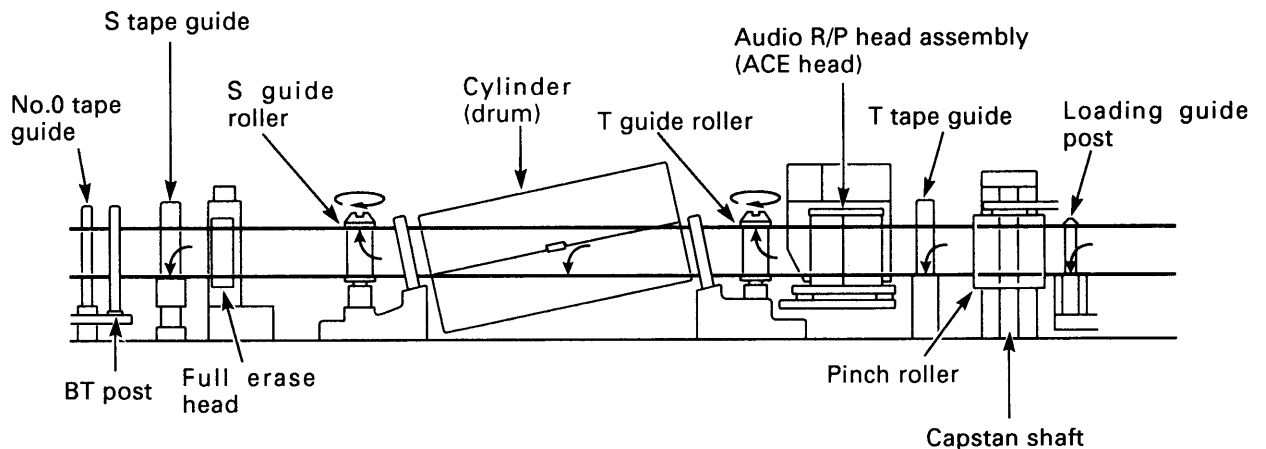

Fig.4-3-7
- 6) Check that in PLAY mode, the tape runs as shown in Fig.4-3-7.